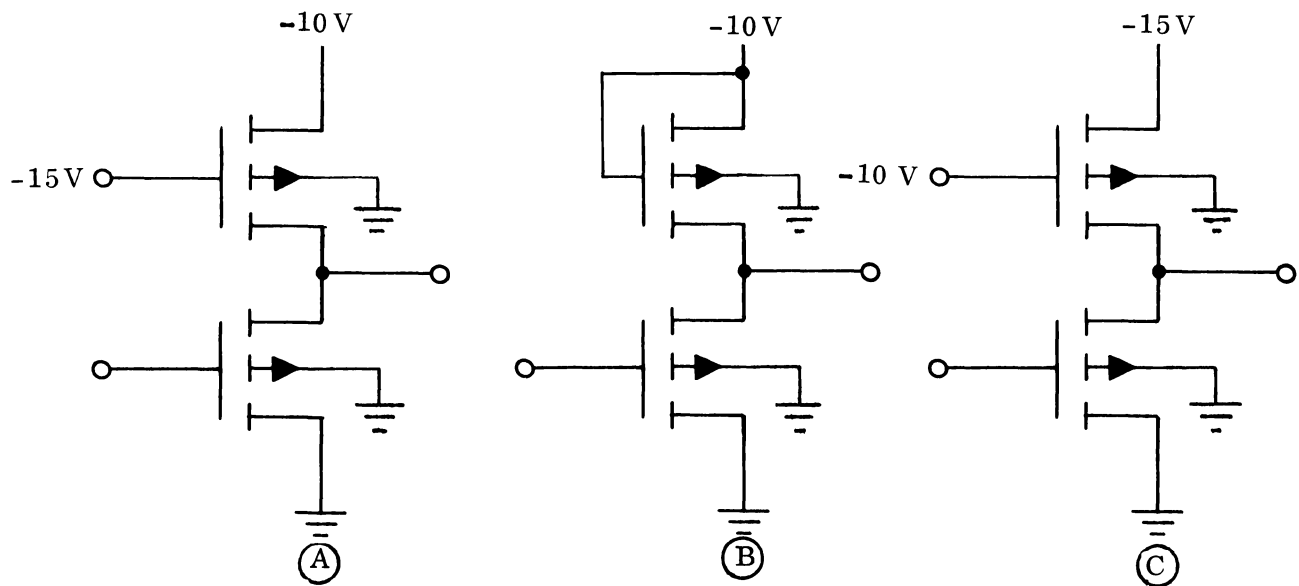

FIGURE 3
5. What is the maximum the output of each of the circuits in figure 3 can reach?